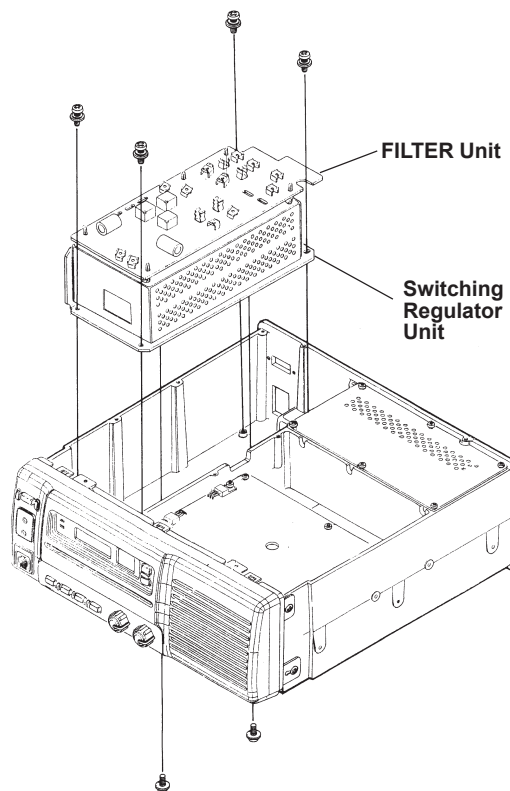

Figure 2
- ❑ Disconnect all wires and connectors from the FILTER Unit, then remove the six screws affixing the Switching Regulator Unit, and remove it (the Switching Regulator Unit is mounted with the FILTER Unit; Figure 2).